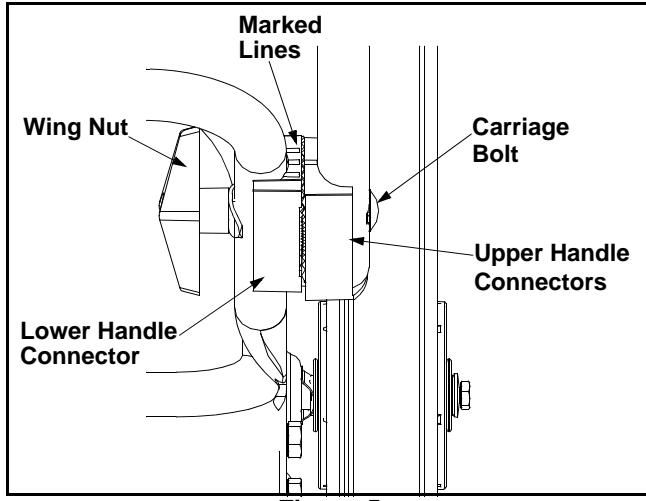

Figure 5
- The lower handle connector has three marked lines on the top and the upper handle connector has one marked line. See Figure 5.
See Figure 5.